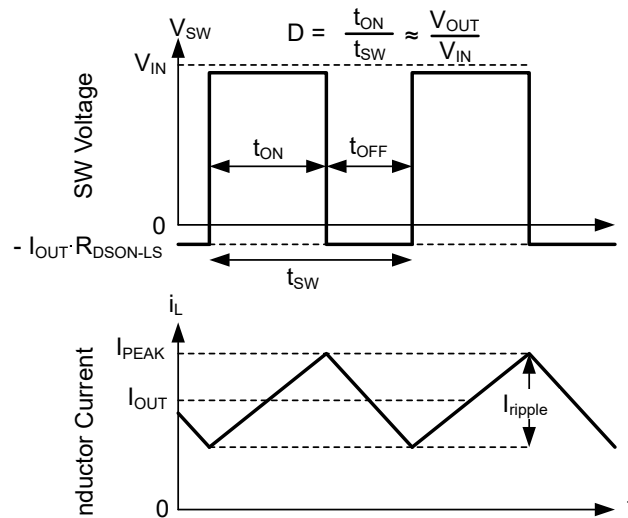

図 7-15. SW Voltage and Inductor Current Waveforms in Continuous Conduction Mode (CCM)
The following operating description of the device refers to セクション 7.2 and to the waveforms in 図 7-15. In CCM, the device supplies a regulated output voltage by turning on the internal high-side (HS) and low-side (LS) switches with varying duty cycle (D). During the HS switch on time, the SW pin voltage,  $V_{SW}$ , swings up to approximately  $V_{IN}$ , and the inductor current,  $i_L$ , increases with a linear slope. The HS switch is turned off by the control logic. During the HS switch off time,  $t_{OFF}$ , the LS switch is turned on. Inductor current discharges through the LS switch, which forces the  $V_{SW}$  to swing below ground by the voltage drop across the LS switch. The converter loop adjusts the duty cycle to maintain a constant output voltage. D is defined by the on time of the HS switch over the switching period: